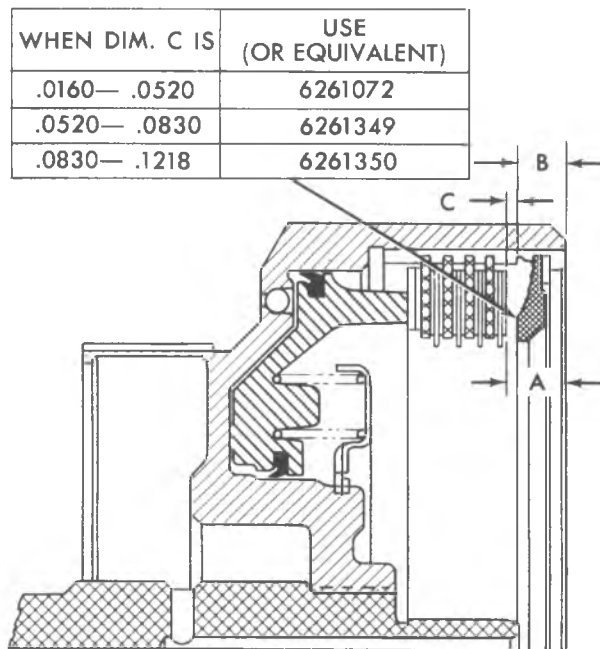

Fig. 78N--Determining Selective Fit for Forward Clutch Pressure Plate
6. Install forward clutch pressure plate (selective fit) and retaining ring. Using chart on Figure 78N to select correct pressure plate (dimension C), measure distance from the top of clutch pack to the top of clutch drum (dimension A). Measure distance from the lower edge of the notch on the inner surface of the drum to the end of the drum (dimension B). Subtract B from A to get dimension C.